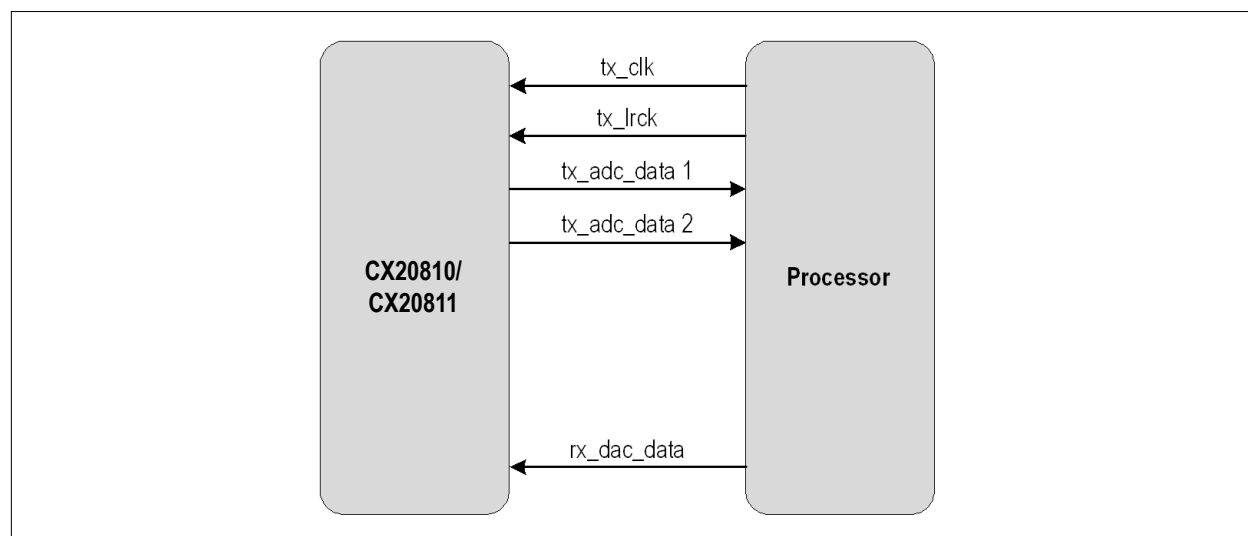

Figure 90: Five-Wire Slave Mode with ADC BCLK, LRCK
- Figure 90 on page 169 provides the five-wire slave mode with ADC BCLK/LRCLK